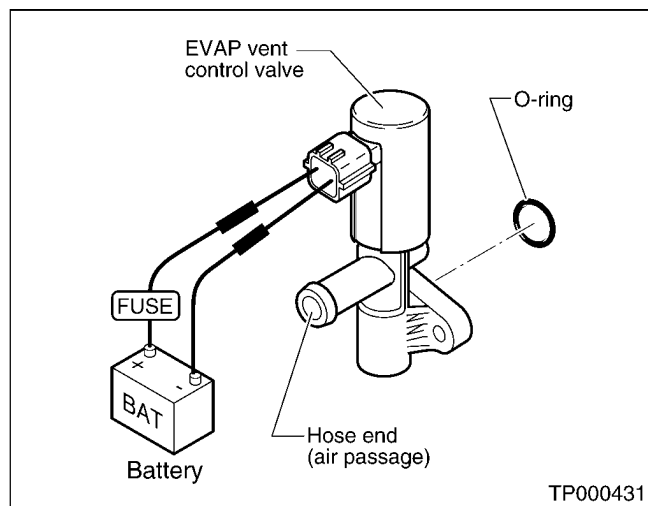

Figure 1
A. Apply battery voltage (see Figure 1) and look into the hose end of the valve to confirm the air passage closes (and seals).
- Correctly positioned and is not damaged (see Figure 1)